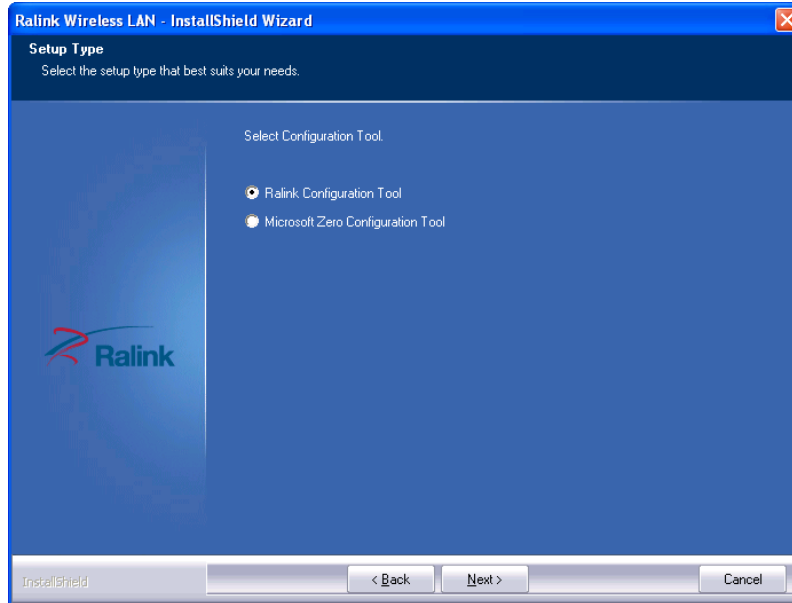

Figure 8-36: Configuration Tool
Step 8: The **Configuration Tool** screen in **Figure 8-36** appears.